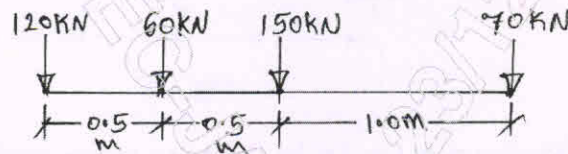

Fig. Q1 (b)
b. The load system shown in Fig. Q1 (b) move from left to right on a girder of span 10 m. Find the absolute maximum B.M. for the girder. Also find the maximum +ve and -ve S.F. anywhere on the beam. (16 Marks)